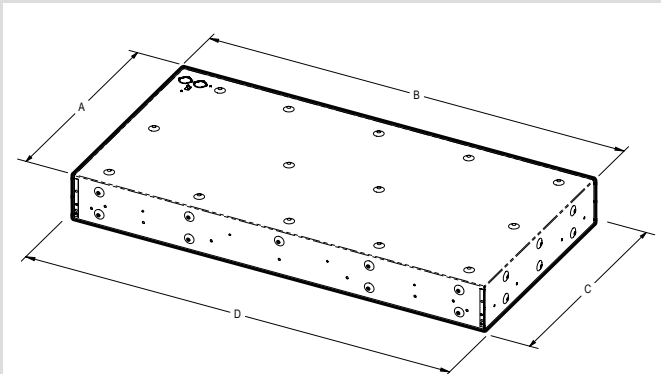
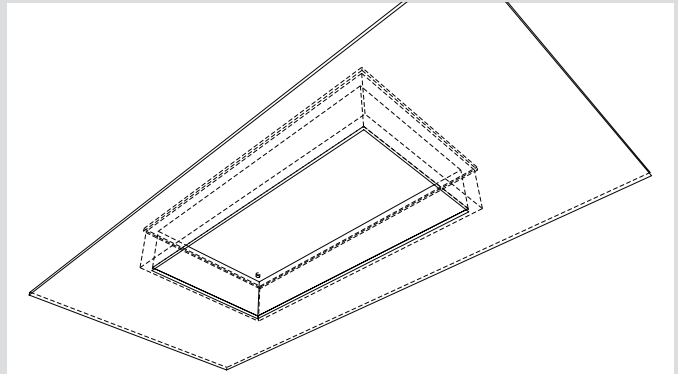

Figure 1
Figure 2: Wood framing in the ceiling
1. Make sure that you have a rectangular hole in the ceiling (Table 1, Fig. 1) and wood framing of the same dimensions (Fig. 2).